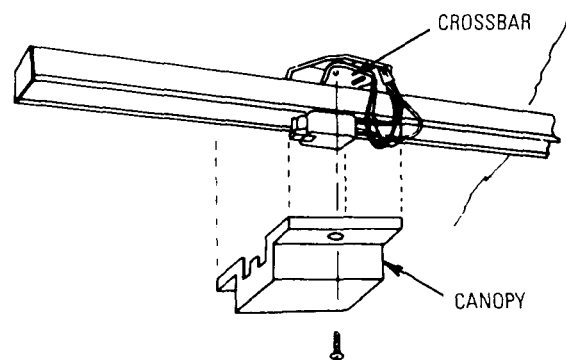

FIG. 3
5. Make wiring connections: black to black, white to white, green or bare wire to grounding terminal or ground wire in OUTLET BOX (see Fig. 3).
6. Insert wiring connections into OUTLET BOX (see Fig. 3).